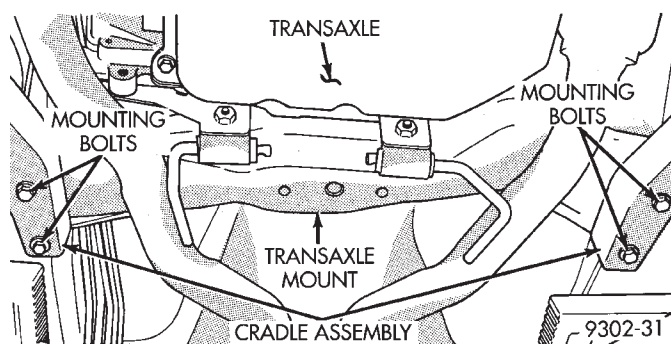

Fig. 48 Transmission Mount To Cradle Mounting Bolts
(7) Remove the 4 bolts attaching the transaxle mount to the rear of the cradle assembly (Fig. 48).
- Lower transaxle and align transaxle mount with the 4 transaxle mount attaching holes in the cradle assembly. Install **BUT DO NOT TIGHTEN** the 4 transaxle mount to cradle assembly attaching bolts (Fig. 48). **The 2 long bolts go in the front cradle assembly to transaxle mount holes.**
(4) Tighten the 4 transaxle mount to cradle mounting bolts (Fig. 48).